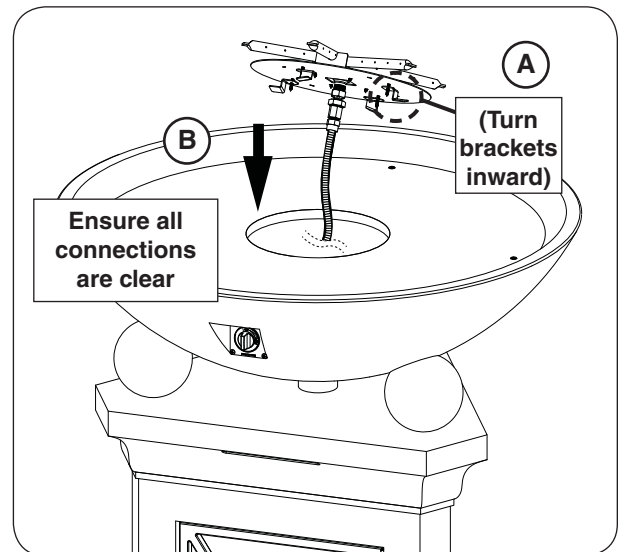

Fig. 31-1 Insert burner assembly
1. Ensure that the four burner brackets are turned inward, then insert the burner assembly (see Fig. 31-1, A-B).